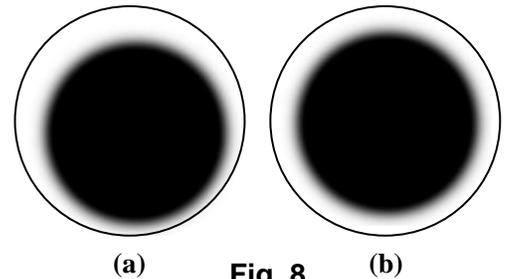

Fig. 8
- Turn the condenser focus knob to lower the condenser till a dark spot showed in the viewing field as shown in **Fig. 8 (a)**.
- Turn the condenser translational centering screws to move the dark spot to the center as shown in **Fig. 8 (b)**.